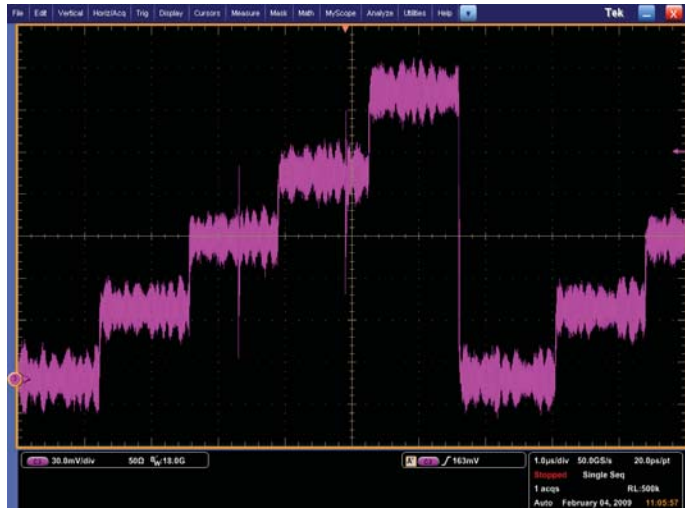

Figure 27. Peak detect mode enables the DPO70000B Series oscilloscope to capture transient anomalies as narrow as 20 ps.
- **Peak Detect Mode:** The oscilloscope saves the minimum and maximum value sample points taken during two waveform intervals and uses these samples as the two corresponding waveform points. Digital oscilloscopes with peak detect mode run the ADC at a fast sample rate, even at very slow time base settings (slow time base settings translate into long waveform intervals) and are able to capture fast signal changes that would occur between the waveform points if in sample mode (Figure 26). Peak detect mode is particularly useful for seeing narrow pulses spaced far apart in time (Figure 27).